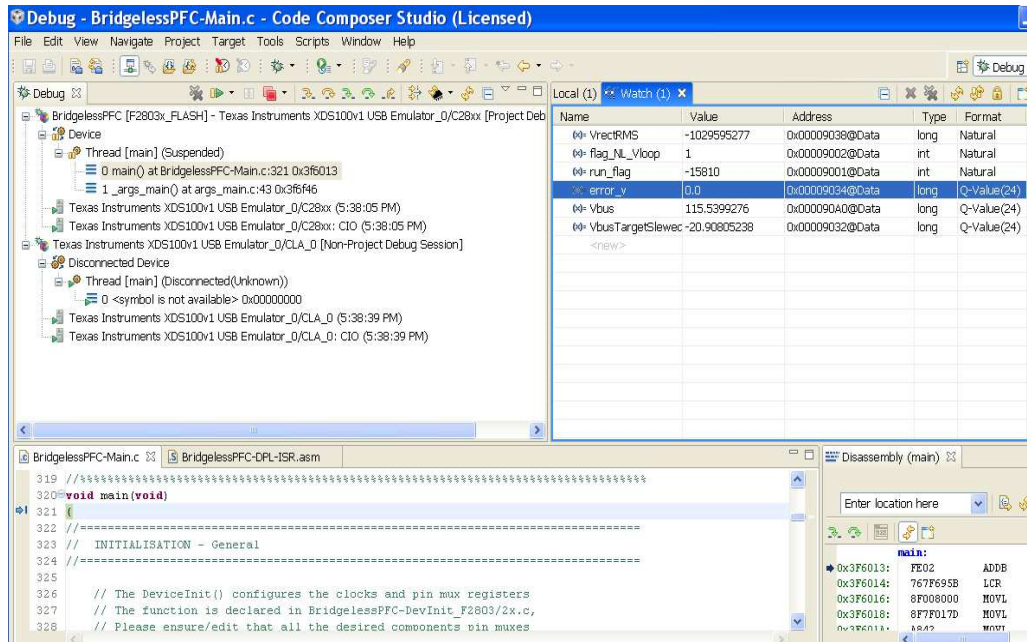

Figure 10. CCS Watch View for Build 1
2. Click the "Watch (1)" tab at the top watch view. You may add any variables to the watch view. In the empty box in the "Name" column, type the symbol name of the variable you want to watch and press enter on keyboard. Be sure to modify the "Format" as needed. The watch view should look something like the following in Figure 10